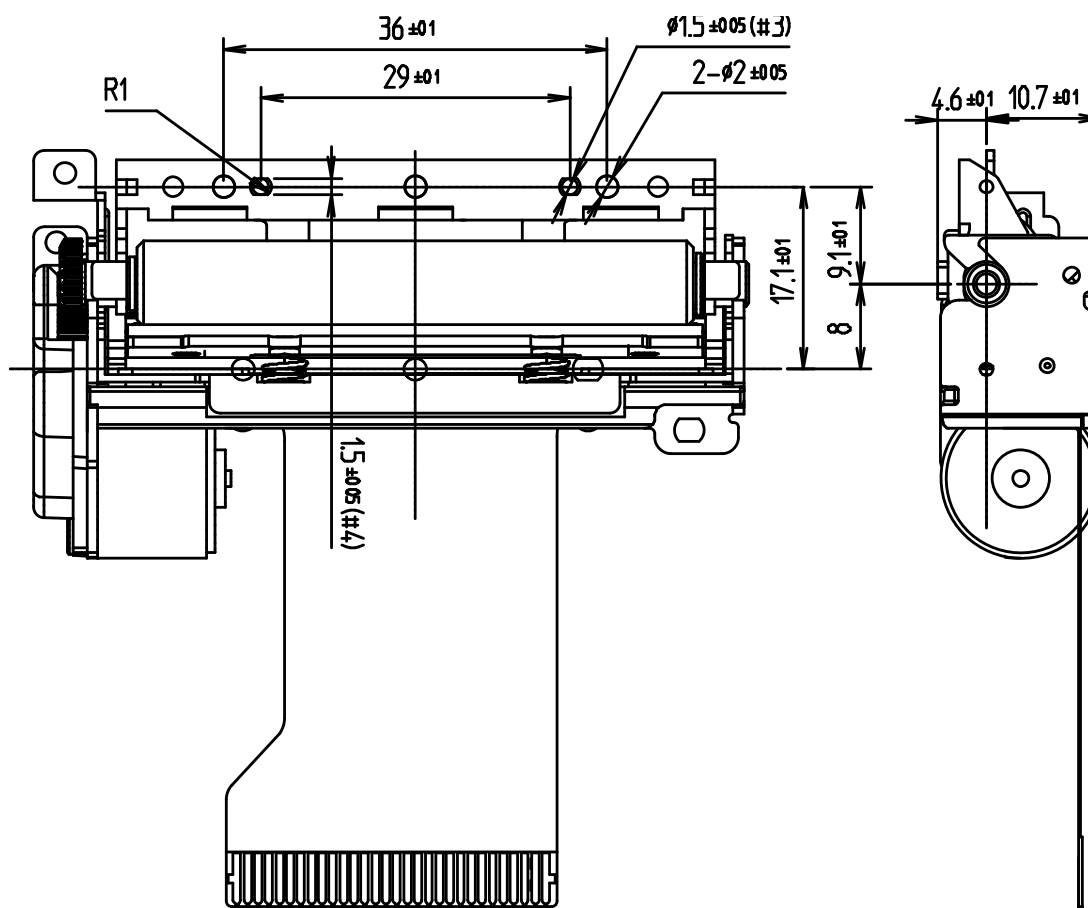

Fig 8-7 Dimension of the mechanism related to the installation of the platen roller block
- **The position of the platen roller should be designed within  $9.1 \pm 0.1$  as shown in the dimension drawing of the Fig 8-7.**